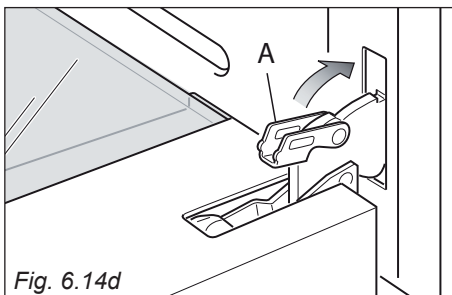

Fig. 6.14d
- Unlock the oven door by opening it completely and closing the lever "A" on the left and right hinges (fig. 6.14d).